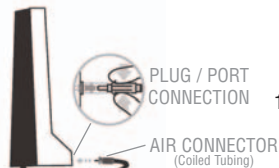

Figure 1
1. Squeeze the middle of the plastic air connector on the end of coiled tubing between thumb and forefinger, and insert into the air connection port on the face of the e-sphyg 2™. Make sure connector firmly "lock" snaps into the port (Figure 1).